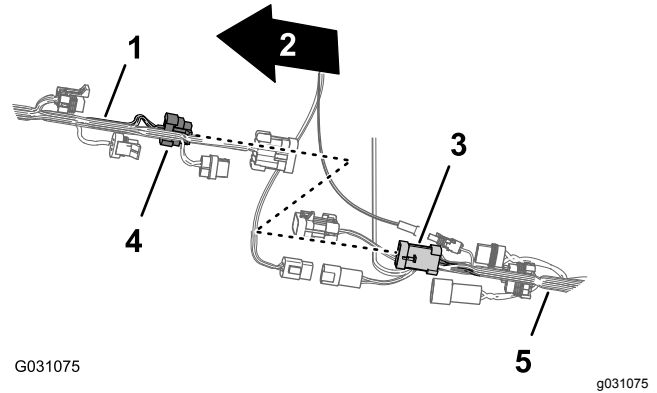

Figure 89
3. Connect the 8-pin connector of the front harness for the sprayer-harness interconnect into the 8-socket connector of the rear harness for the rate switch (Figure 89).